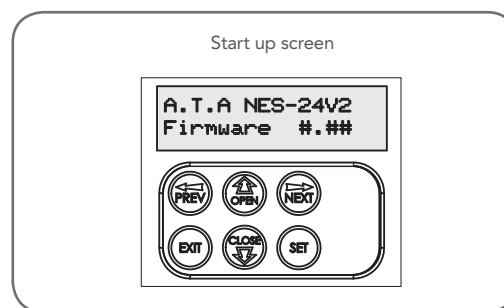

Fig 6.2
- After checking the initial wiring, apply power to the NeoSlider™. The controller will go through a startup sequence displaying the STARTUP SCREEN which indicates the controller type and firmware version (Fig. 6.2). After a short delay the MAIN SCREEN will be displayed.